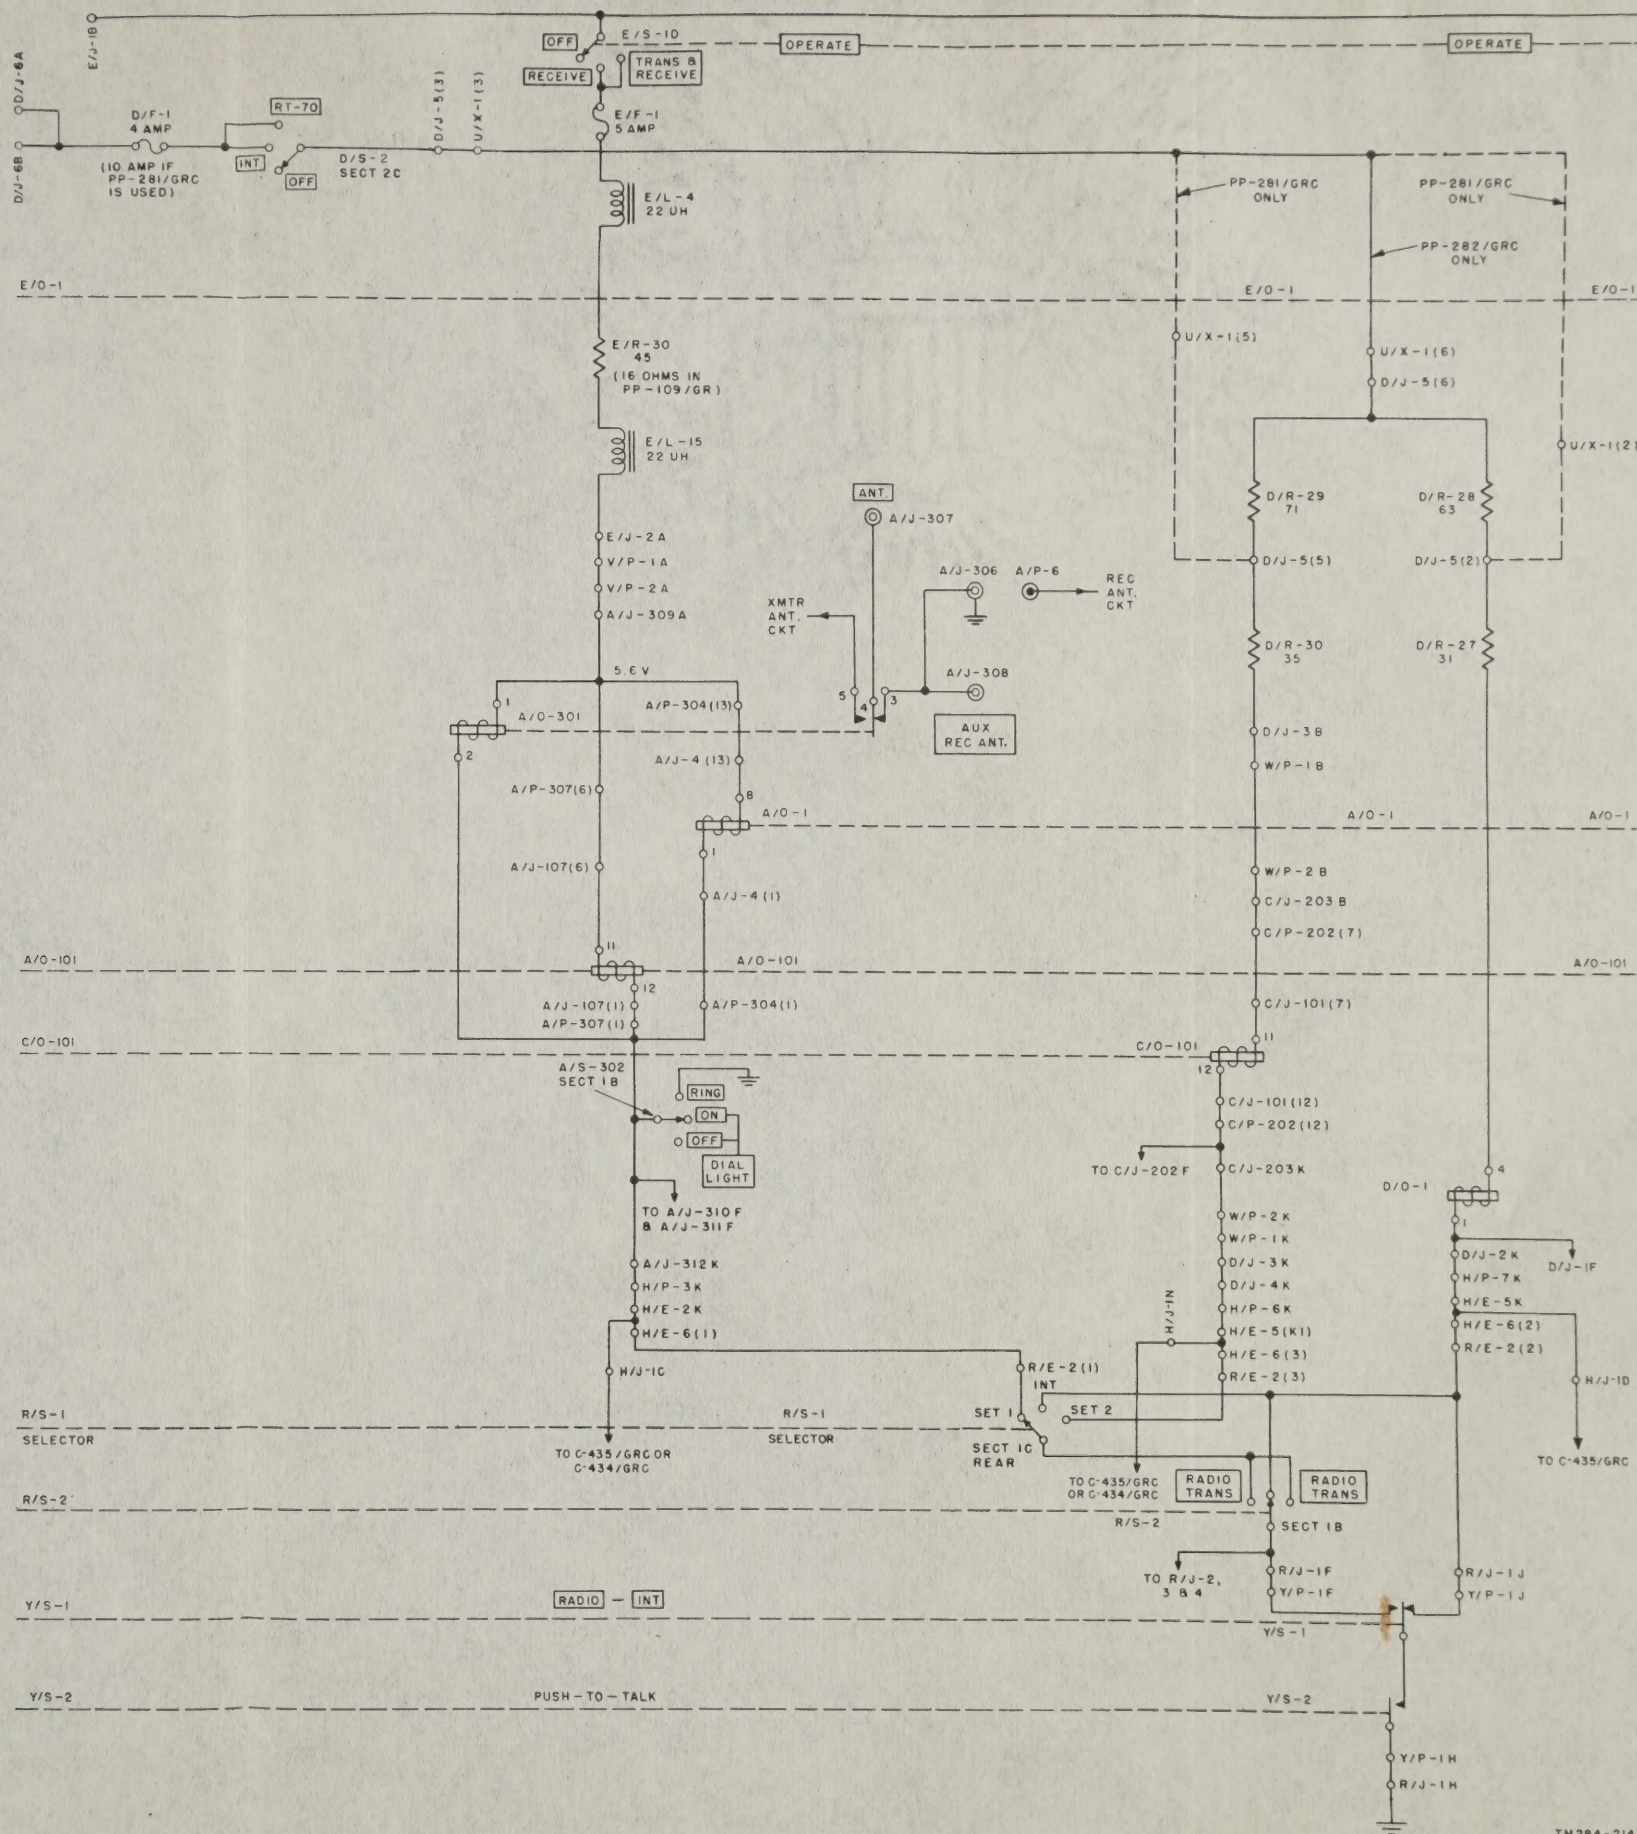

Figure 64. Power distribution to control relay circuits.
a. Application of Battery Voltage (fig. 64). Battery voltage is applied to the three relay coils (which are connected in parallel) through terminal E/J-1B, the RECEIVE or the TRANS & RECEIVE position of switch E/S-1D, fuse E/F-1, coil E/L-4, voltage-dropping resistor E/R-30, and coil E/L-15. E/R-30 has a value of 45 ohms in Power Supply PP-112/GR which is used with a 24-volt battery supply, and a value of 16 ohms in Power Supply PP-109/GR which is used with a 12-volt supply. In either case, the voltage applied to the relay coils has a value of approximately 6 volts.
b. Ground-Return Path Through Control Box (fig. 64). The three receive-transmit relays are energized only when their ground-return path is completed. The path most commonly used is through one of the control boxes. This path extends through the Set 1 (counterclockwise) position of R/S-1C rear, through either one of the RADIO TRANS positions of R/S-2B, through the RADIO (depressed) position of Y/S-1, and through push-to-talk switch Y/S-2 to ground.
c. Ground-Return Path Through Set 1 Panel Audio Connector (figs. 64 and 112). Another ground-return path is through an audio accessory connected to one of the Set 1 panel AUDIO connectors (A/J-310 or A/J-311). Either a chest set or a handset may be used. When a handset is used, the circuit is completed from A/J-310F or A/J-311F (whichever is used), through the handset push-to-talk switch (terminal F to terminal H), and through A/J-310H or A/J-311H to ground. When a chest set is used, the circuit is completed from A/J-310F or A/J-311F through
d. Ground-Return Path Through Dial Light Off-On-Ring Switch (fig. 64). A direct connection to ground is made through the RING position of section 1B of DIAL LIGHT OFF-ON-RING switch A/S-302.
100. Set 2 Receive-Transmit Relay Circuits (fig. 64)
b. Ground-Return Path Through Control Box (fig. 64). Set 2 receive-transmit relay C/O-101 is energized only when its ground-return path is completed. The most commonly used path is through one of the control boxes. This path extends through the Set 2 (clockwise) position of R/S-1C rear, through either one of the RADIO TRANS positions of R/S-2B, through the RADIO (depressed) position of Y/S-1, and through push-to-talk switch Y/S-2 to ground.
a. Application of Battery Voltage (fig. 64). Battery voltage is applied to the coil of relay D/O-1 through terminal D/J-6B, fuse D/F-1,
b. Ground-Return Path Through Control Box (fig. 64). Relay D/O-1 is energized only when its ground-return path is completed. The most commonly used path is through one of the control boxes and a chest set. This path extends through the INT (unoperated) position of RADIO-INT switch Y/S-1, and through push-to-talk switch Y/S-2 to ground. Two alternate ground-return paths are available through the control box for use when a handset is connected to the control box instead of a chest set. One of these paths is through the INT (center) position of R/S-1C rear, through either one of the RADIO TRANS positions of section 1B of RADIO TRANS switch R/S-2, through the push-to-talk switch of the handset (terminal F to terminal E), and through terminal R/J-1E (or R/J-2E, R/J-3, or R/J-4) to ground. A second alternate path is available through the center position of section 1B of RADIO-TRANS switch R/S-2, through the handset (terminal F to terminal E), and through terminal R/J-1E (or R/J-2E, R/J-3, or R/J-4) to ground. (R/J-1 and R/J-2 are the two audio connectors on the control box. R/J-3 and R/J-4 are the MIC. input jacks.)
c. Ground-Return Path Through Amplifier Panel Audio Connector (figs. 64 and 112). Another ground-return path is through an audio accessory connected to the amplifier panel AUDIO connector (D/J-1). Either a chest set or a handset may be used. When a handset is used, the circuit is completed from D/J-1F, through the handset push-to-talk switch (terminal F to terminal H), and through D/J-1H to ground. When a chest set is used, the circuit is completed from D/J-1F through the RADIO (depressed) position of RADIO-INT switch Y/S-1, through push-to-talk switch Y/S-2 (terminal F to terminal H), and through D/J-1H to ground.